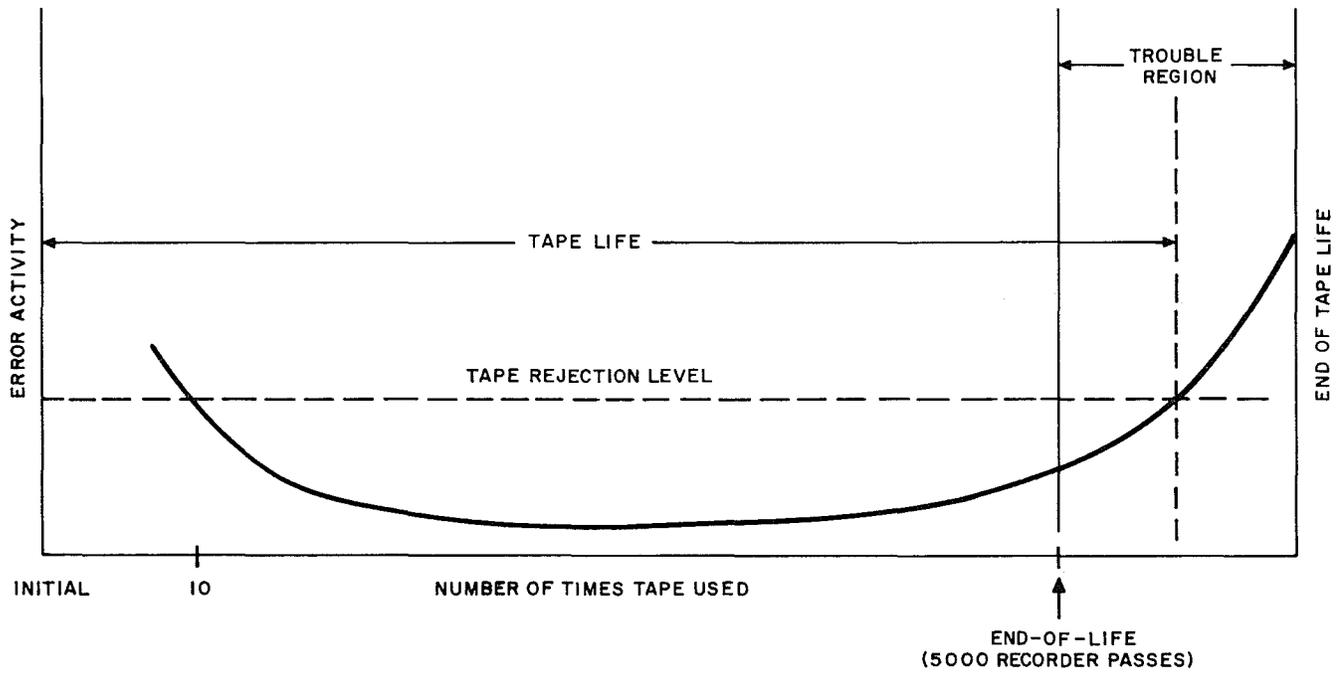

Fig. 11—Typical Error Activity Profile for a Reel of Magnetic Tape
10.02 Tape life is defined as the number of passes (cycles) a tape makes over a record head from the initial use to the end of life (Fig. 11).
10.04 It is recommended that a magnetic tape be removed from service when (1) the tape has made 5000 recorder head passes (where multihead arrangements are regarded as one pass) or (2) the tape has experienced 1000 hours tape running time whichever occurs first. This criterion provides a margin so as to enhance trouble-free use (Fig. 11).